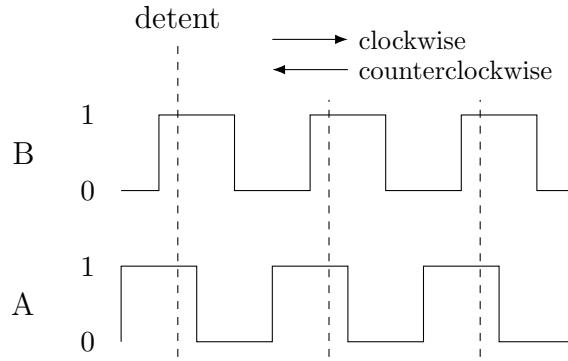
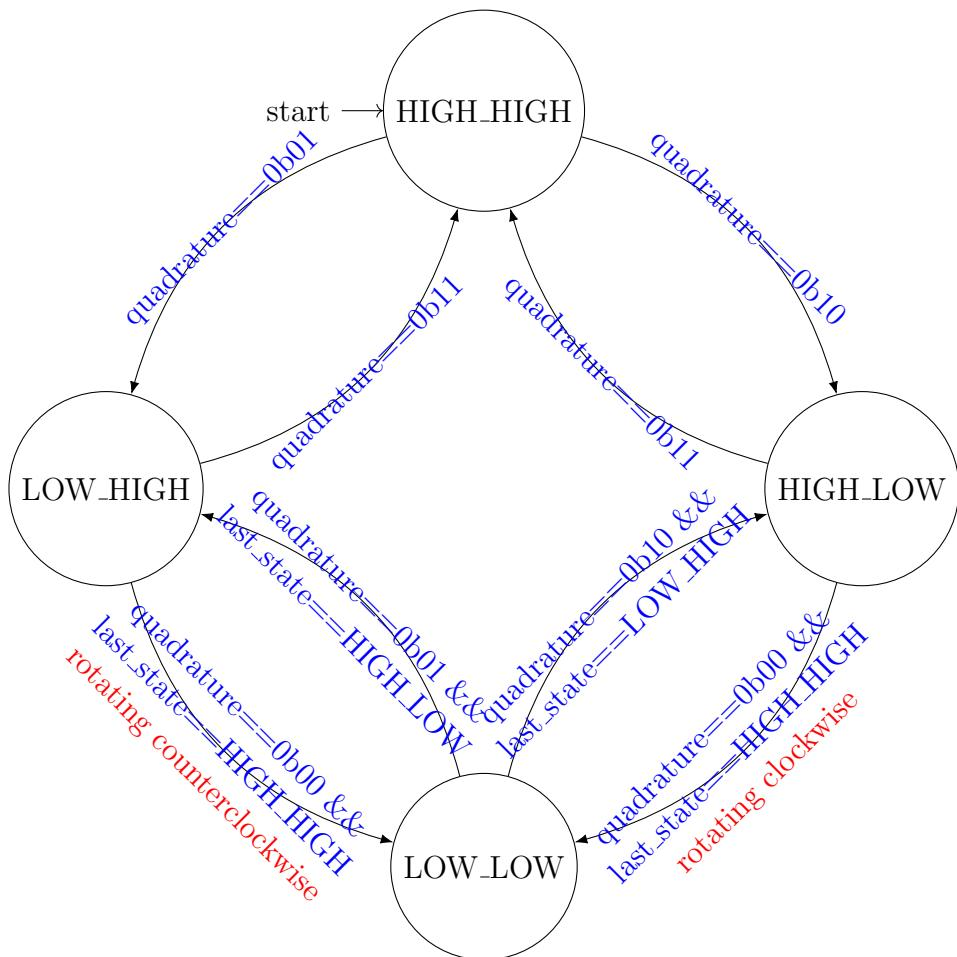

Figure 1: Quadrature encoding of the rotational position in a rotary encoder.
Figure 2: State machine to determine a rotary encoder's direction of rotation.
We will track the movement of the rotary encoder's shaft using the state machine depicted in Figure 2. The convention we will use is that the states are named after the logic values of the quadrature's two components: *B\_A*. For example, if the bits returned by `get_quadrature()` are 0b0000'0010 then the state machine should be in state HIGH\_LOW.
Locate `HANDLE_QUADRATURE_INTERRUPT()` and examine the state machine depicted in Figure 2. You will implement the state machine in `HANDLE_QUADRATURE_INTERRUPT()`, but first make sure that you understand how the state transitions driven by the quadrature signal in Figure 1 allow us to determine the direction of rotation.
- ( ) Implement the state machine from Figure 2 in `handle_quadrature_interrupt()`.